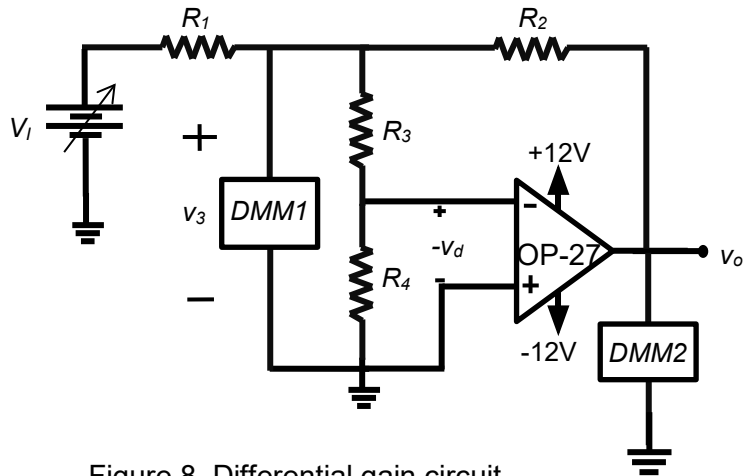

Figure 8. Differential gain circuit.
1. Using the OP27 op-amp, connect the circuit in Figure 8. Let $R_1=1 \text{ k}\Omega$, $R_2=4.7 \text{ k}\Omega$, $R_3=47 \text{ k}\Omega$, $R_4=47\Omega$. Measure the resistor values using the DMM and record them in your lab notebook. Use the function generator as a variable DC source by taking advantage of the DC offset. You can do that by applying the smallest (1 mV) amplitude sinewave at 100Hz, and by varying the DC offset. You will be varying the input voltage to record two measurements.
1. Diagram of circuit of Figure 8. (1 pt)